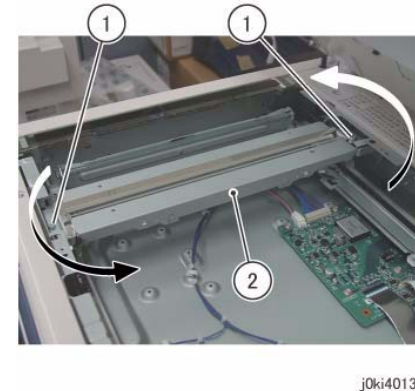

Figure 4 Remove the Full Rate Carriage
8. Remove the Full Rate Carriage. (Figure 4)